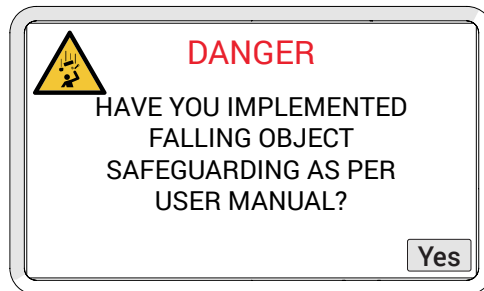

Fig. 280 - Falling object warning
6. A second warning message (Fig. 280) will display requesting assurance that a no-entry fall zone has been established (see “Preparation for Safe Use” on page 38) and tether requirements are met (see “Tether Requirements and Attachment” on page 39). Acknowledge this warning by touching **Yes**.